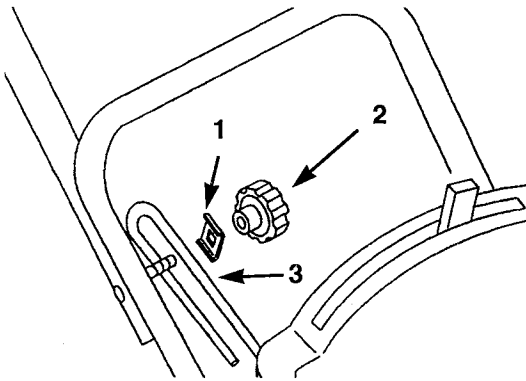

Figure 19
- C. Install the U-shaped end of the mounting rod onto the handle bolt, using a bracket and handle knob (Fig. 19). Make sure the curved sides of the bracket fit around the mounting rod.